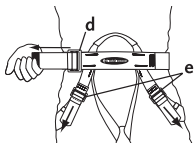

Figure 3
waistbelt fits snugly around your waist, above your hipbone (figure 3).
3. Tighten both leg buckles (e) until the leg loops fit comfortably (figure 3). Note: Check your harness frequently to ensure it remains adjusted properly—snug yet not uncomfortably tight.